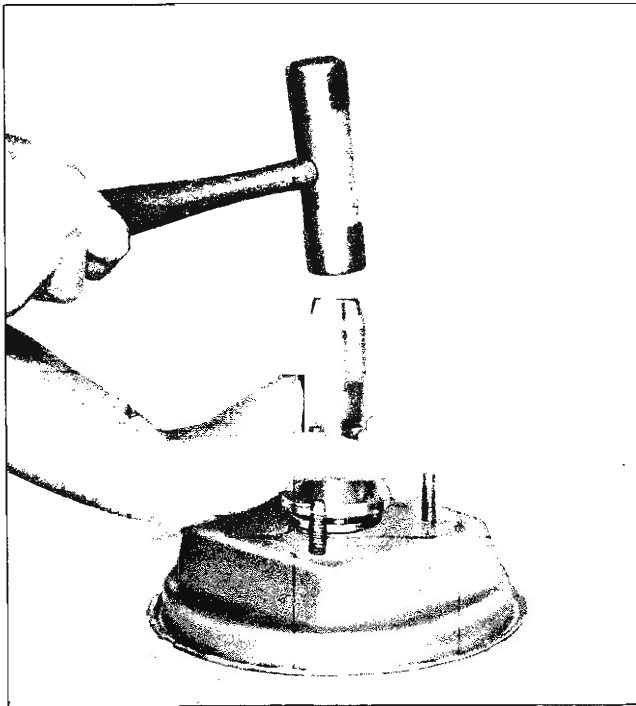

Fig. 21—Installing Piston Bearing Seal
3. Place rear shell on block, to back up plate around center hole, and position bearing seal in center hole. Use Tool J-9540 (fig. 21) to seat seal in recess of rear shell. Tool bottoms against shell when seal is in place.